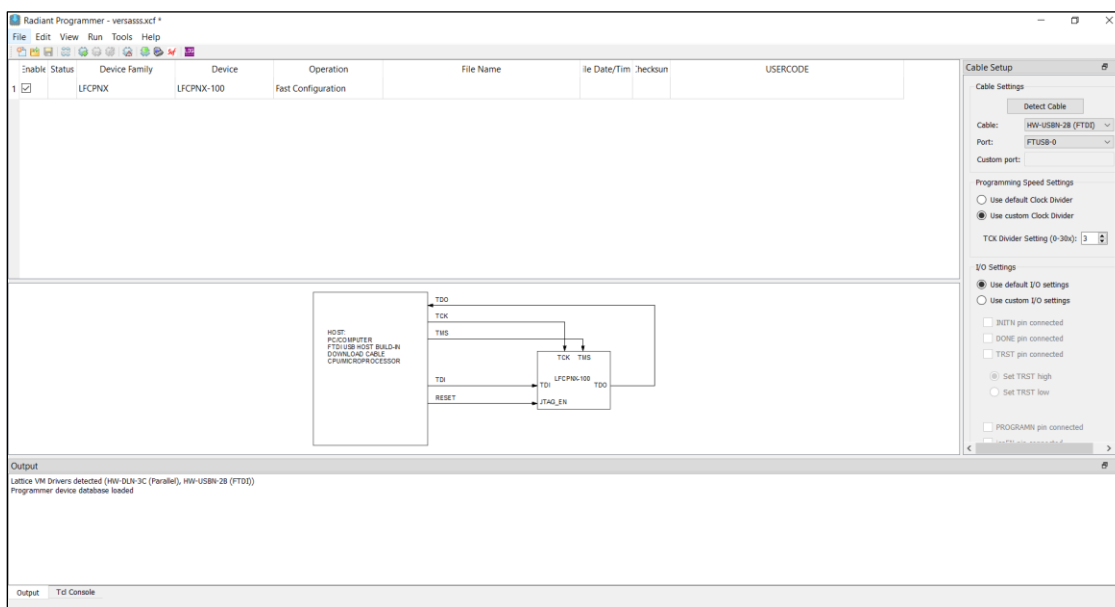

Figure 3.5. Radiant Programmer Opened from Windows Start Menu
4. You can see the selected project opened in the Radiant Programmer (Figure 3.5).